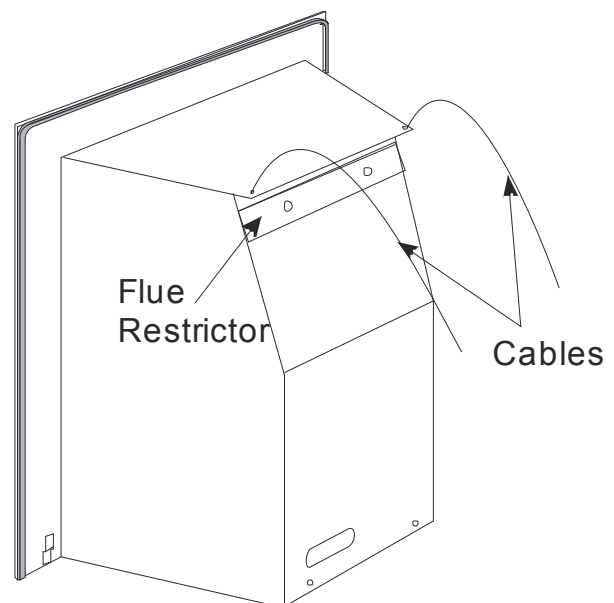

Figure 58
4. Unpack the cable fixing kit and feed the cable ends through the top holes on the sides of the flue outlet (see **Figure 58**).
5. If fitting the fire into a 125mm flue system, remove the **flue restrictor** (see **Figure 58**).